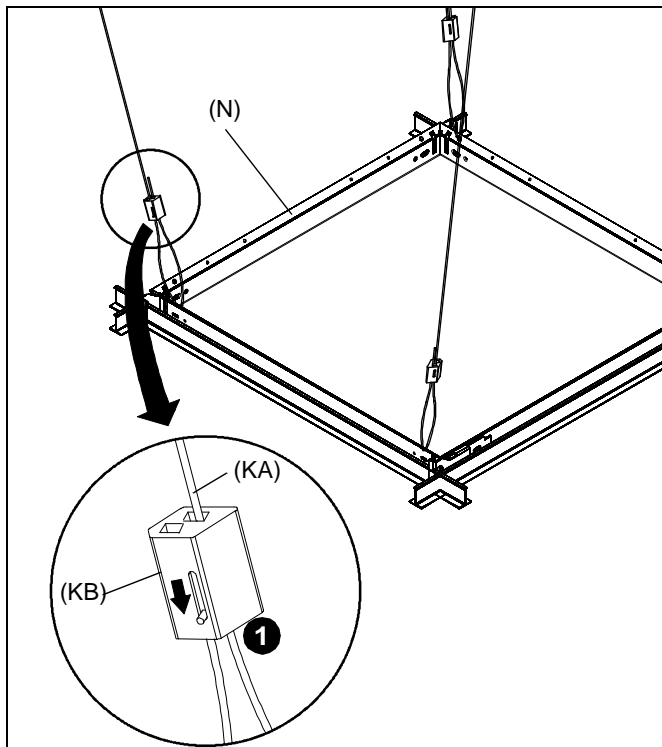

Figure 8
1. Thread each cable (KA) completely through cable lock (KB), corresponding hole in corner of CMS490 frame (N), and completely through opposite side of cable lock (KB) (See Figure 8).
2. Adjust cable tension until CMS490 frame (N) is supported *entirely and evenly* by all four support cables, but not so tight as to distort ceiling tile framework.